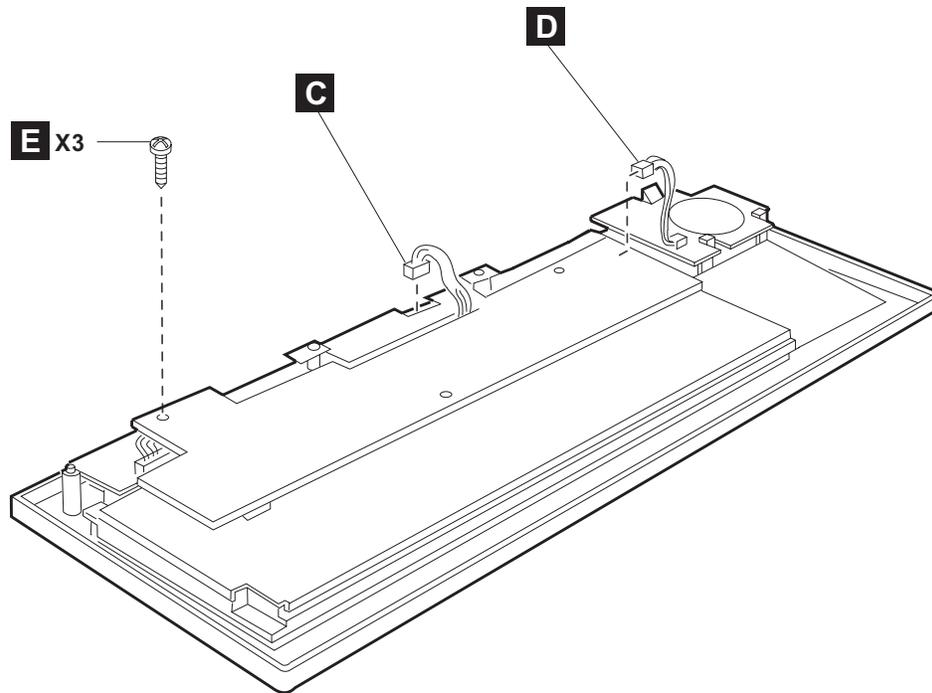

Figure 57. USB keyboard-V components – part 2
2. Disconnect the cable from the magnetic stripe reader unit (see **C** in Figure 57 on page 58). Do not disconnect the cable from the logic board.
2. Disconnect the cable to the magnetic stripe reader unit at the magnetic stripe reader unit end (see **C** in Figure 57 on page 58).
2. Disconnect the cable from the speaker assembly on the logic board (JP5). See **D** in Figure 57 on page 58.